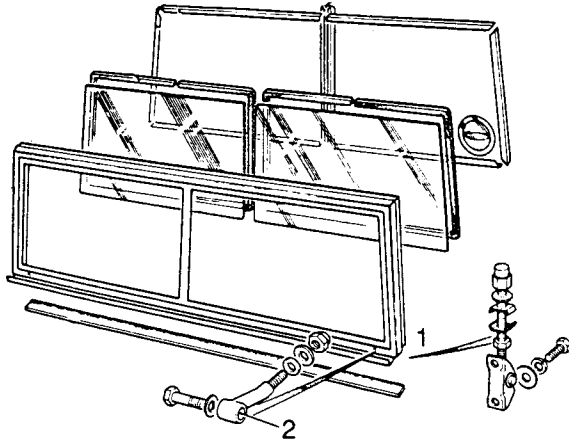

Fig M3.13
- (4) Refer to Fig M3.13. Slacken the nuts on the windscreen clamp bolts (1). Swing the clamp bolts clear of the windscreen.
- (5) Disconnect the wiper motor earth lead from the windscreen frame.
- (6) Remove the bolts securing the windscreen to the hinges (2).
- (7) Remove the windscreen.